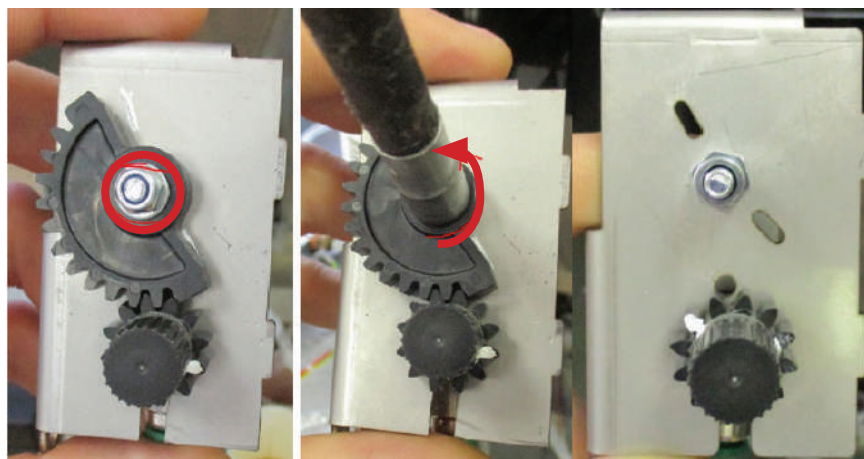

Fig.4.15
4. Unscrew the gear sector fixing nut (fig. 4.15).